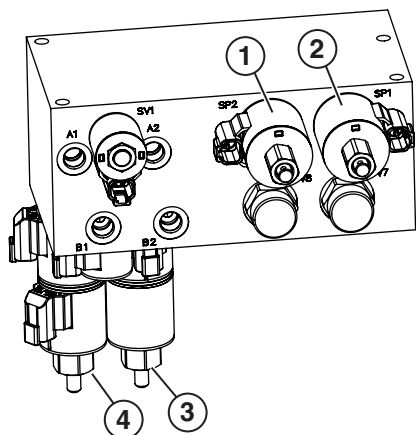

Figure 49: Single Discharge Unit Hydraulic Valve
- 2] Locate the solenoid that controls the function that needs to be overridden by referencing Figure 4848 or Figure 49 on page 43.